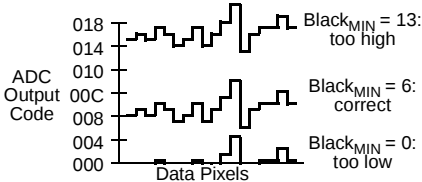

Figure 9: Setting the Static Offset DACs
- Reduce the Offset DAC value for each color so that the minimum black pixel is close to 0, but still greater than 0 (Figure 9). One offset DAC code = -4.2 ADC LSBs, so change the DAC code to $(31 - \text{Black}_{\text{MIN}}/4.2)$.